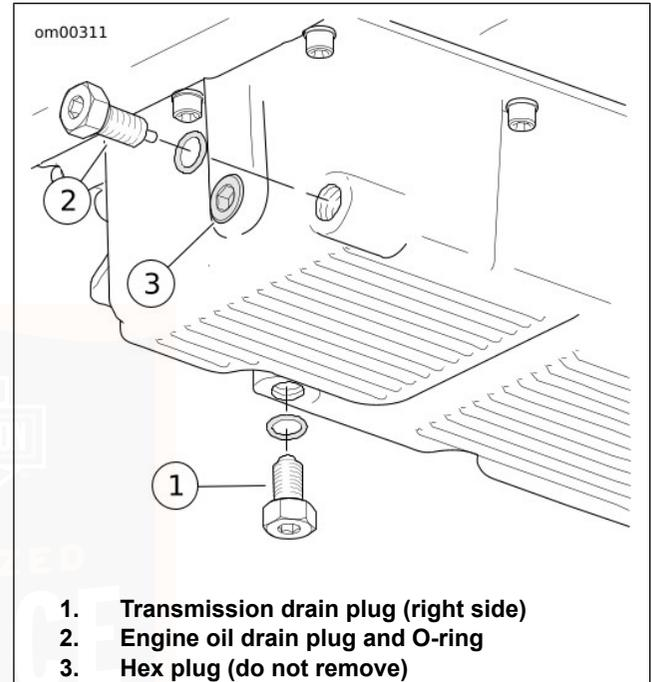

Figure 46. Oil Pan
2. See Figure 46. Remove transmission drain plug and drain lubricant into a suitable container.